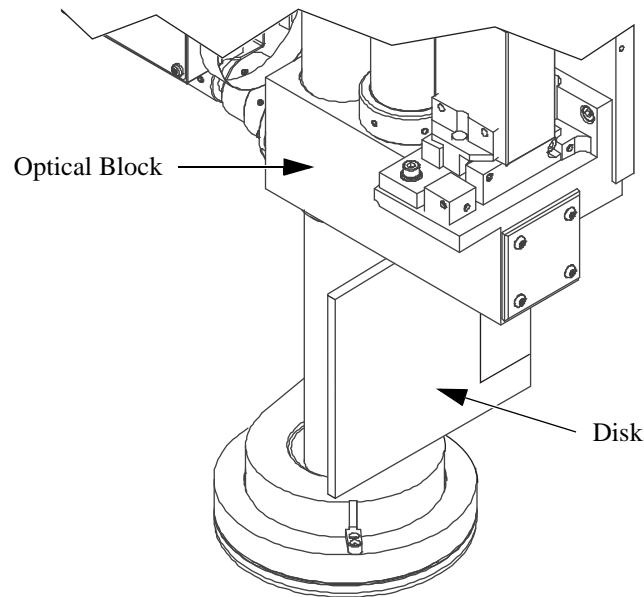

Figure 8-23 Inserting a Disk Between Optical Block and PRL
12. Manually drive the PRL down, so a 3 1/2-inch disk fits between the optical block and the top of the inner PRL ring housing (see Figure 8-23). Turn the motor shaft so the disk is firmly held in place.